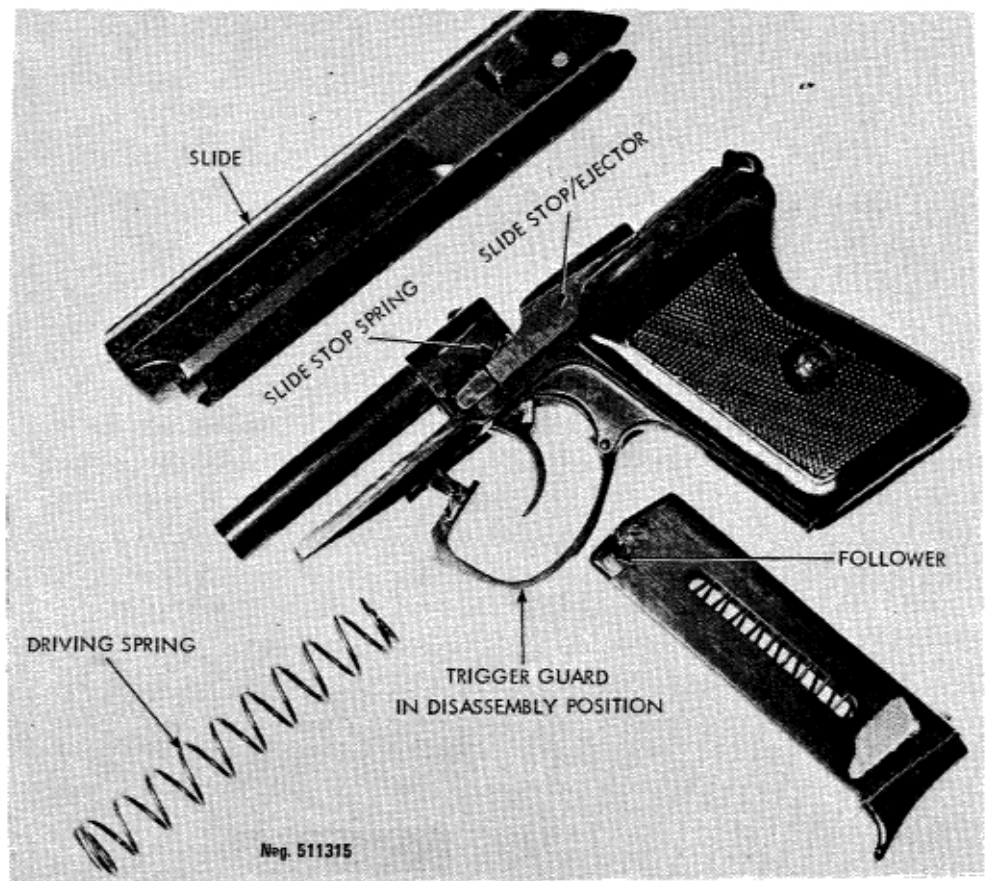
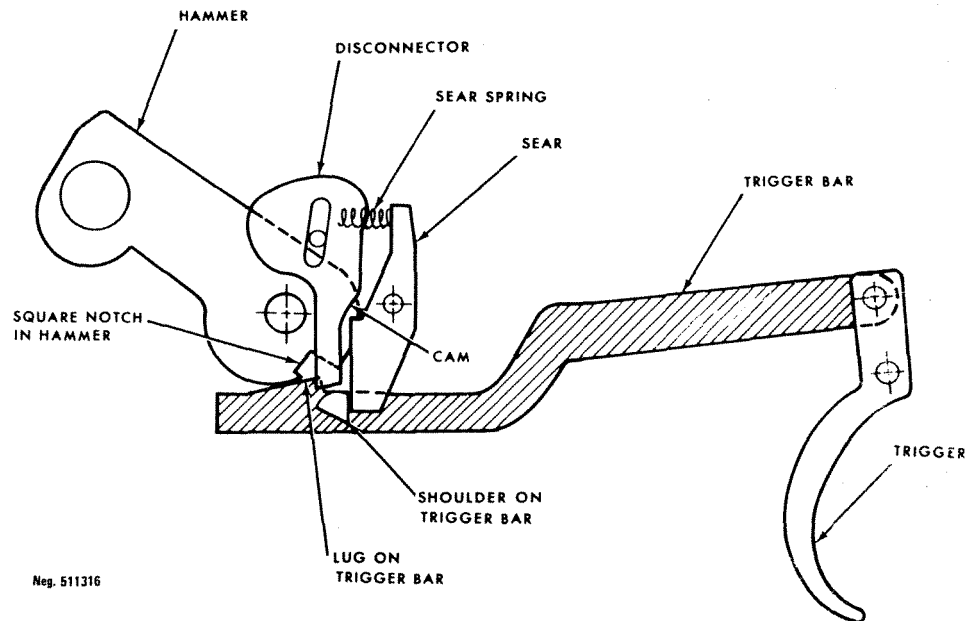

Figure 16. P-64 pistol disassembled.
Figure 17. P-64 trigger mechanism.
(1) Clear the weapon (para 21f), but do not insert the magazine.
(2) Pull the front of the trigger guard down, and when it is clear of the receiver, press it to one side and rest it against the receiver (fig 16). Grasp the slide by its milled grooves, pull it fully rearward, and lift its rear end up and out of engagement with the receiver. Ease the slide forward over the barrel until it is free. Pull the driving spring off the barrel.
(3) No further disassembly is necessary or desirable.
(3) Disengage the trigger guard from the receiver and return the trigger guard to its normal position. Insert the magazine.
b. If the hammer is in its forward position, finger pressure on the trigger moves the trigger bar forward. A lug on the rear top of the trigger bar mates with a square notch in the bottom of the hammer (fig 17), and, as the trigger bar moves, it causes the top of the hammer to rotate back. When the trigger bar is almost at the limit of its forward travel, the rotary motion of the hammer has moved its notch up and out of contact with the trigger bar lug; when this occurs, the firing spring swings the hammer to fire the cartridge.
c. When the hammer is cocked, the sear nose, under pressure of the sear spring, snaps into the sear notch on the hammer and holds the hammer cocked (fig 17). When the trigger is pressed and the trigger bar moves forward, a shoulder inside the trigger bar contacts the sear and swings the bottom of the sear forward and out of engagement with the hammer. The hammer, under the force of the hammer spring, swings forward to fire the cartridge.
d. When the cartridge fires, it forces the slide rearward. The empty cartridge case is held to the slide by the extractor until the ejector (fig 16) contacts the case and expels it from the weapon. The slide also forces the disconnector down, and the disconnector, in turn, forces the trigger bar down. The shoulder on the trigger bar (fig 17) releases the sear, which, under pressure of its spring, swings back where it can engage and hold the hammer cocked. When the slide completes its recoil movement, the driving spring forces the slide forward to load a fresh cartridge from the magazine into the barrel. When the trigger is released, the trigger bar moves rearward until the shoulder clears the sear, at which time the trigger bar swings up and the pistol is ready to fire another shot.
e. When the safety is set to safe, a pair of lugs swing into position beside the rear end of the firing pin. These lugs protrude past the end of the pin to prevent the hammer from striking the pin. As the safety continues to turn, a cam on its body forces the disconnector (fig 17) downward; the disconnector strikes the sear and cams the sear out of engagement with the hammer, which falls. The disconnector also depresses the trigger bar so its notch cannot mate with the hammer. The hammer strikes the lugs on the safety, but because these protect the firing pin, the pistol will not fire, and, while the disconnector holds the trigger bar depressed, pressure on the trigger will not move the hammer or sear; the
f. The ejector/slide stop is forced upward by the magazine follower when the last cartridge is fed from the magazine. When the slide recoils after firing the last cartridge, the slide stop moves up and holds the slide open. When the empty magazine is removed, a rearward trigger on the slide, by relieving pressure on the slide stop, will allow the slide stop spring (fig 16) to force the slide stop down where it cannot engage the slide.